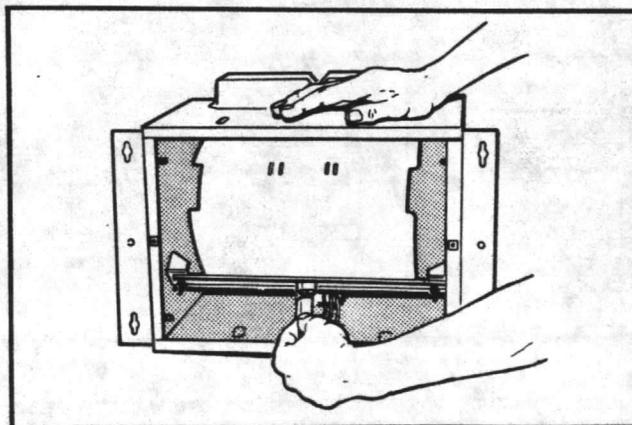

Figure 12
- b.) Unplug electrical connector from blower. Do not pull on plug wires. (Fig. 12)